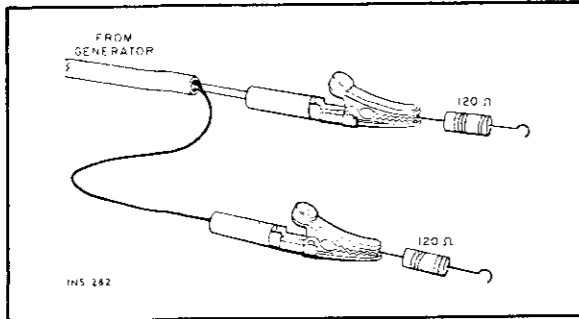
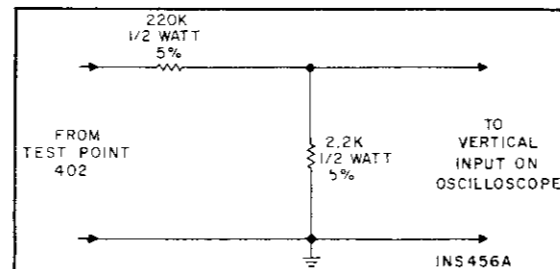

Figure 7. Connections To Provide 300-ohm Generator Output Impedance. Matching Resistors Reduce Generator Voltage By Half At Antenna Terminals.
Figure 8. Voltage Divider Probe.
- (1) Set TUNING dial pointer to zero (0) calibration mark on the logging scale. If the dial pointer is not centered on the 0 at the extreme end of the knob rotation, reposition the pointer assembly on the dial cord and cement the pointer in place to prevent slippage. Allow cement to thoroughly dry.
- (2) Connect an accurately calibrated DC VTVM to Test Point 9B (on TUNE-O-MATIC circuit board). DO NOT USE DC VOM.
- (3) Rotate TUNING knob to center dial pointer on 88 MHz calibration mark on dial glass.
- (4) Using a small screwdriver, adjust R2B, FM ALIGNMENT POT. for DC VTVM reading of exactly 4.3 volts. Disconnect DC VTVM.
- (5) Connect an FM generator to the FM ANTenna terminals. Use a 120-ohm composition resistor in series with each lead from the generator (see Figure 7).
- (6) Connect a scope and an AC VTVM to either LEFT or RIGHT RC DR OUT jack.
- (7) Set FM generator frequency to receiver frequency, 90 MHz, modulated with 400 Hz,  $\pm 75$  kHz deviation. Set generator output level as low as possible.
- (8) Align (oscillator coil) L504 first, then (mixer coil) L503, and (RF coil) L502 for maximum reading on AC VTVM and tuning meter, and maximum waveform amplitude and symmetry.
- (9) Set generator frequency and TUNING dial pointer to 106 MHz. Align (oscillator trimmer) C512 first, then (mixer trimmer) C511, and (RF trimmer) C503 for maximum reading on AC VTVM and tuning meter, and maximum waveform amplitude and symmetry.
- (10) Repeat alignment several times until accurate dial calibration and maximum gain are obtained. Keep generator output level as low as possible during all adjustments.
- (1) Connect an FM generator to the FM ANTenna terminals. Use a 120-ohm composition resistor in series with each lead from the generator (see Figure 7).
- (2) Set generator frequency to same frequency as receiver. Set generator RF output level to full output (approximately 100,000  $\mu$ V) with audio modulation off.
- (3) Adjust generator frequency for peak tuning meter reading.
- (4) Adjust FM METER ADJ. pot. R328 (on AM/FM IF, MPX board) for tuning meter reading of 4.5.
- (1) Connect RF output of multiplex generator to the FM ANTenna terminals. Use a 120-ohm composition resistor in series with each lead from the RF output (see Figure 7). Set MPX generator for external modulation with 19 kHz pilot carrier,  $\pm 7.5$  kHz deviation (10% pilot, no audio). Tune receiver to RF frequency of MPX generator.
- (2) Connect DC VTVM to Test Point 403 (pin 4G on AM/FM IF, MPX board).
- (3) Adjust cores of Z401 and Z402 (on AM/FM IF, MPX board) for maximum reading on DC VTVM (2.5 to 4 VDC).
- (4) Connect output of audio generator, set for 1 kHz, to the external modulation input of MPX generator and to external sync input of an oscilloscope. Adjust audio generator level for composite signal  $\pm 75$  kHz deviation (10% pilot, 90% audio). Modulate right channel only.
- (5) Connect AC VTVM to LEFT RCDR OUT jack. Connect scope through voltage divider probe (see Figure 8) to Test Point 402 (pin 4K on AM/FM IF, MPX board).